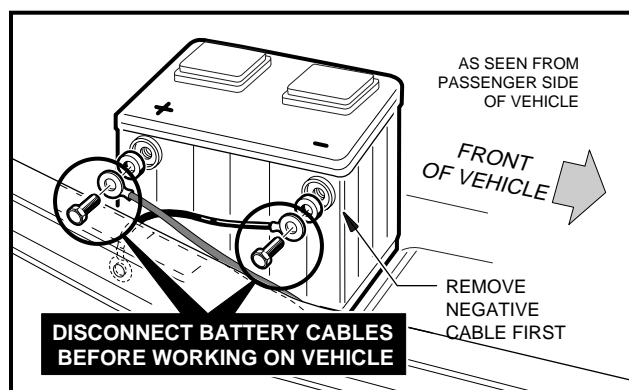

Figure 1 Battery Cable Removal
- DISCONNECT BATTERY, NEGATIVE CABLE FIRST, **(FIGURE 1, PAGE 2)**.